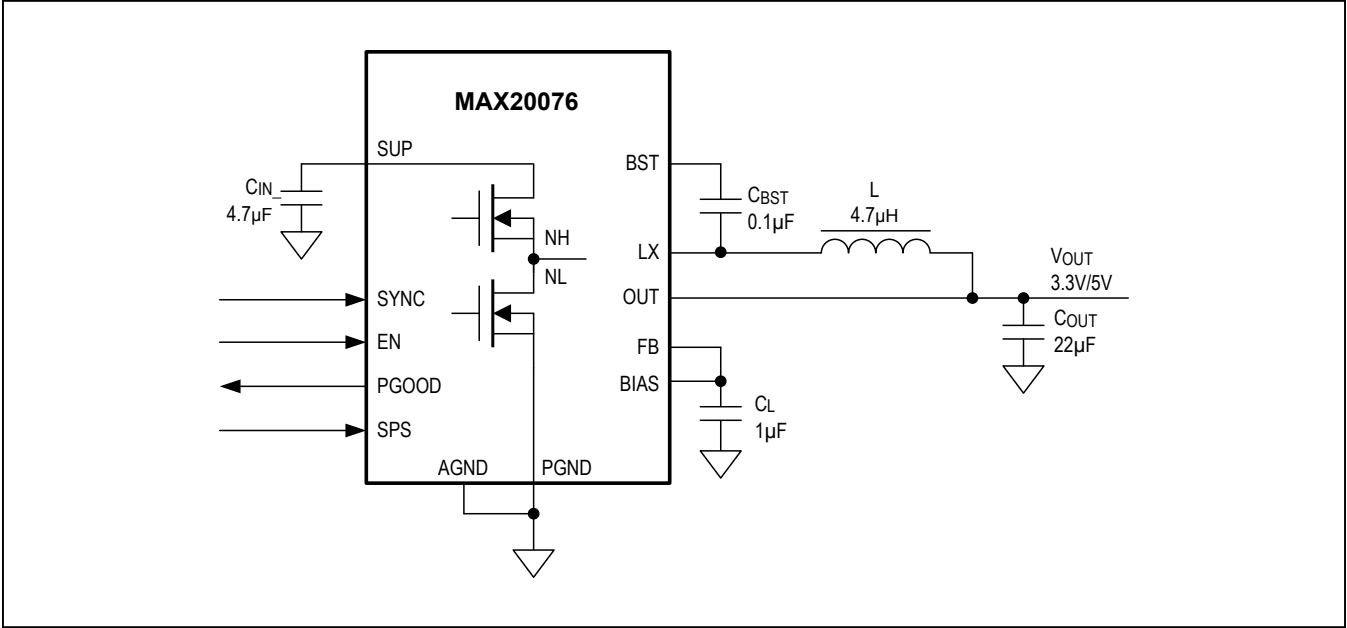
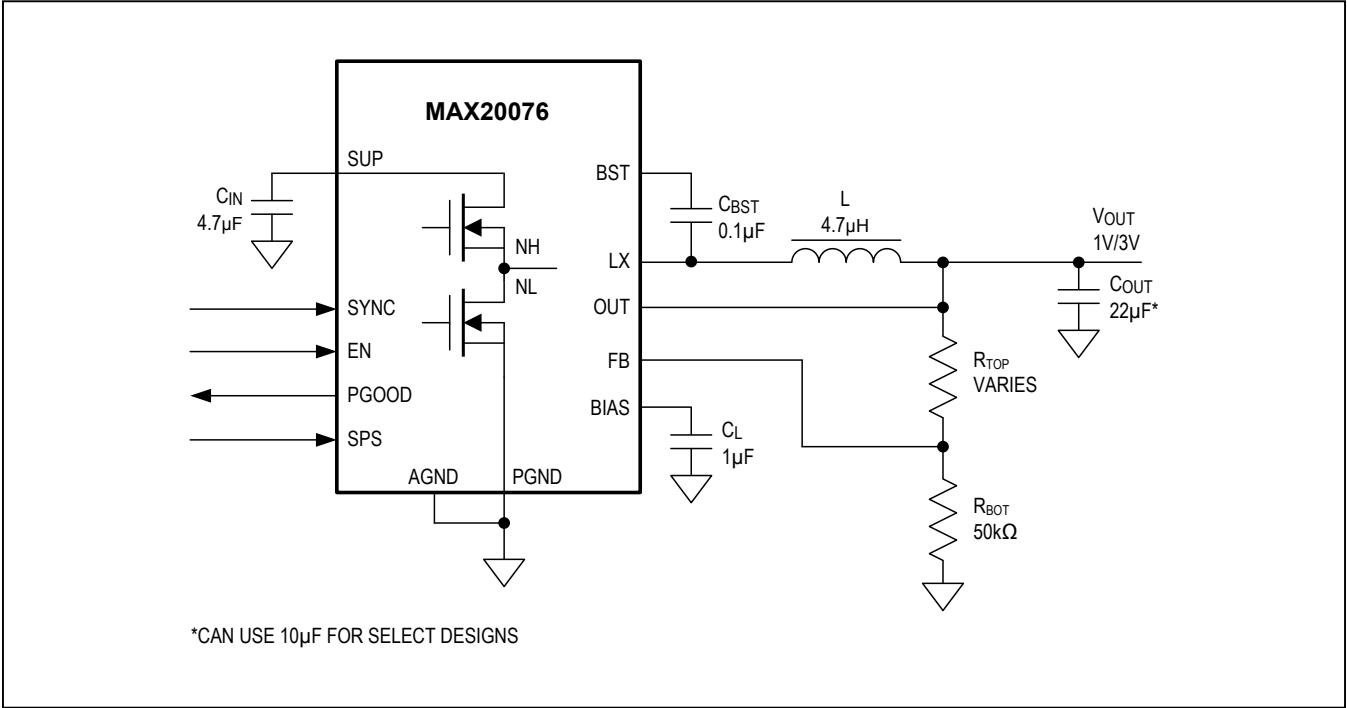
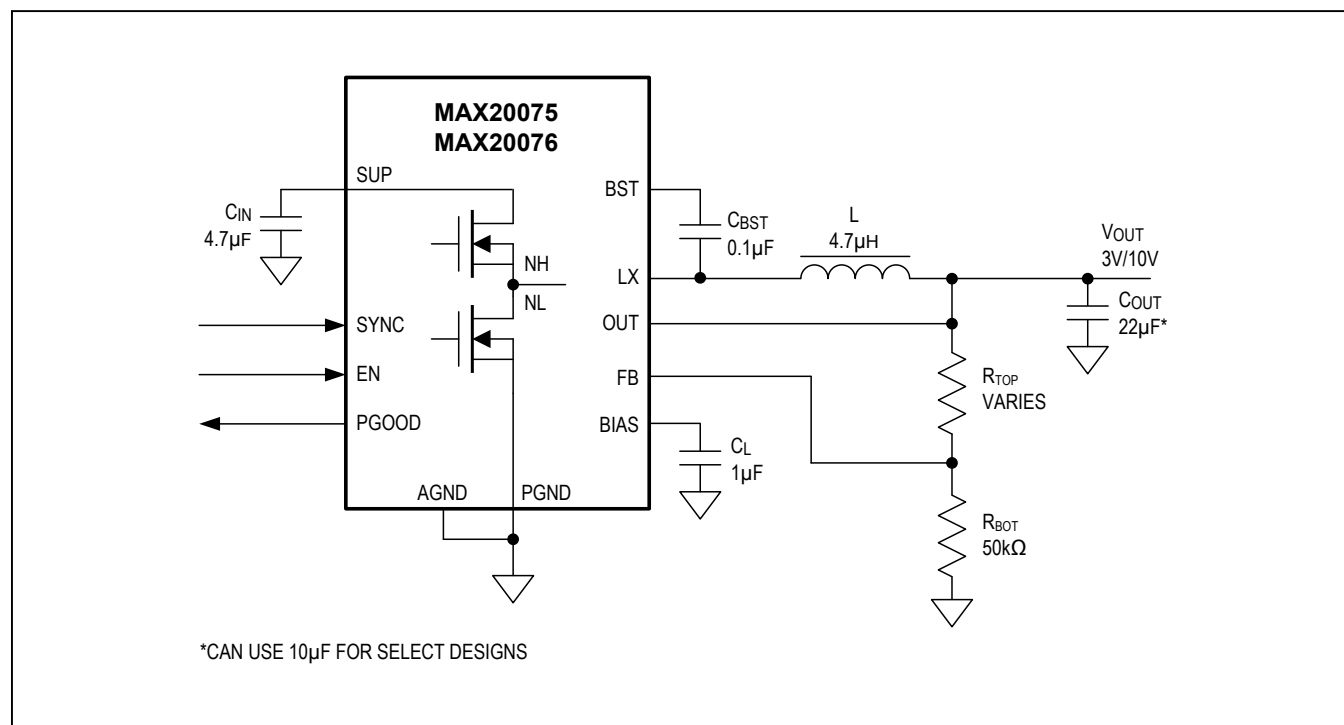

Figure 2. MAX20076 3.3V/5V Fixed 1.2A Output in 12-Pin TDFN Package
Figure 3. MAX20076ATCC/V+ 1V/3V Variable 1.2A Output in 12-Pin TDFN Package
Figure 4. MAX20075/MAX20076 3V/10V Variable Output
- 1) The input capacitor (4.7μF, see Figure 2, Figure 3, and Figure 4) should be placed right next to the SUP pin. Since the MAX20075/MAX20076/MAX25276 operate at 2.1MHz switching frequency, this placement is critical for effective decoupling of high-frequency noise from the SUP pins.